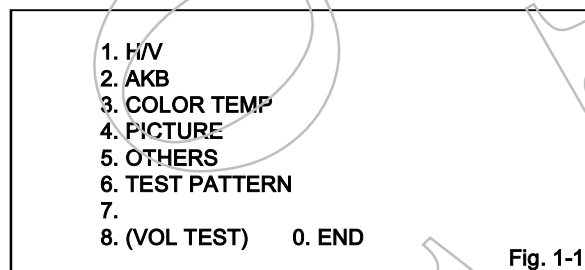
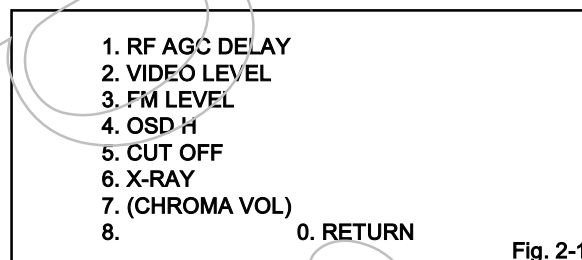
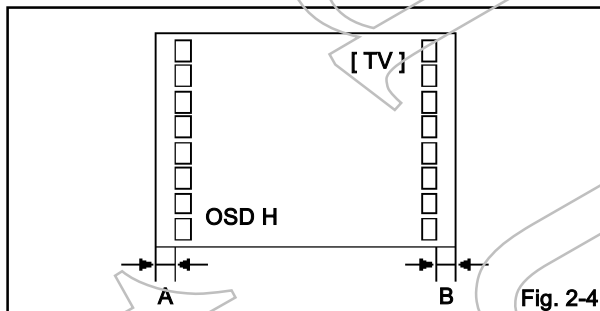

Fig. 1-1
Fig. 2-1
Fig. 2-4
(Refer to Fig. 1-1.)
2. Press the VOL. DOWN button on the set and the Channel button (9) on the remote control for more than 1 second to appear the adjustment mode on the screen as shown in Fig. 1-1.
3. Use the Channel button (1-8) on the remote control to select the options shown in Fig. 1-1.
4. Press the channel button (0) or MENU button on the remote control to end the adjustments.
4. Activate the adjustment mode display of Fig. 1-1 and press the channel button (5) on the remote control to select "OTHERS". The Fig. 2-1 appears on the display.
5. Press the channel button (1) on the remote control to select "RF AGC DELAY".
5. Press the channel button (5) on the remote control to select "CUT OFF".
4. Activate the adjustment mode display of **Fig. 1-1** and press the channel button (2) on the remote control to select "AKB". The **Fig. 2-2** appears on the display.
5. Press the channel button (2) on the remote control to select the "R.BIAS".
3. Activate the adjustment mode display of **Fig. 1-1** and press the channel button (1) on the remote control to select "H/V". The **Fig. 2-3** appears on the display.
4. Press the channel button (1) on the remote control to select "H. PHASE 50/60".
4. Press the channel button (5) on the remote control to select "V. LIN 50/60".
4. Press the channel button (4) on the remote control to select "V. POSI 50/60".
4. Press the channel button (3) on the remote control to select "V. SIZE 50/60".
2. Activate the adjustment mode display of Fig. 1-1 and press the channel button (5) on the remote control to select "OTHERS". The Fig. 2-1 appears on the display.
3. Press the channel button (4) on the remote control to select "OSD H".
4. Press the VOL. UP/DOWN on the remote control until the difference of A and B becomes minimum. (Refer to Fig. 2-4)